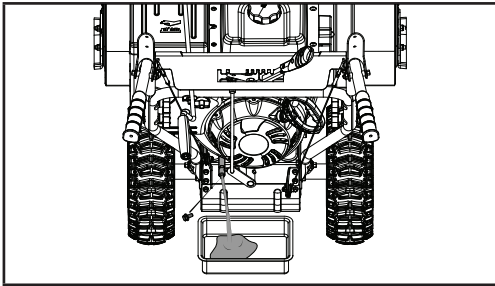

Figure 16
3. Remove the drain bolt and drain the oil into the container by slightly tipping the engine toward the oil cap/dipstick (Fig. 16).